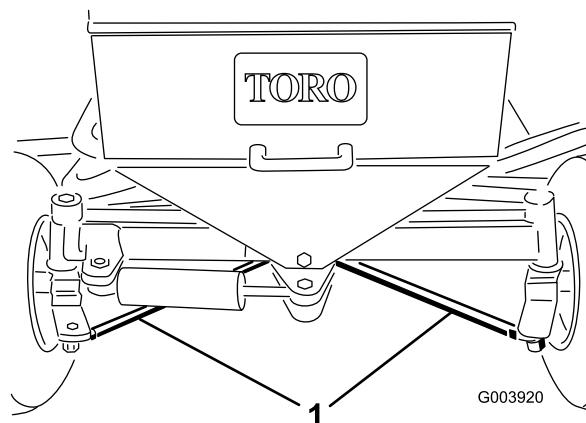

Figure 65
2. Loosen the jam nuts on both tie rods (Figure 65).